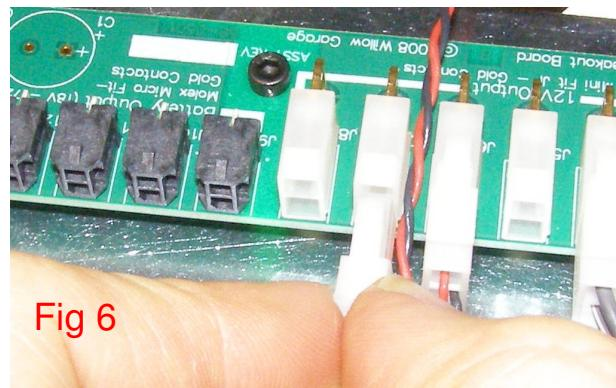

Fig 6
6. Unplug "12v Pwr Head Laser" cable (Fig 6)